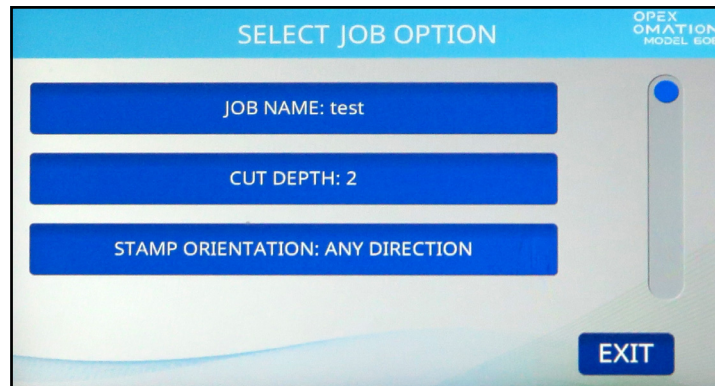

Figure 6-9: Select Job Option
4. The **Select Job Option** screen appears (Figure 6-9). This has three parameters by default, described below. Pressing a parameter will bring you to its own screen where you can change it.